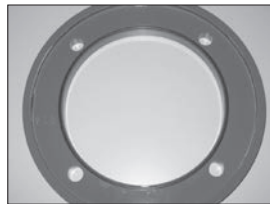

Figure 1
– Install the o-ring (item 14A) in the groove in the motor adapter. Use small amount of petroleum jelly (or silicone grease on EPDM o-rings) to help hold the o-ring in place. Install the larger female rabet portion of the motor adapter flange (item 14) on the motor face. Align the holes in the adapter with the holes in the motor face. See figure 1.
For IEC 90, 100/112, 132 with B5 flange motors - Install flange (item 14) on motor with pockets (depressions) side towards the motor face. Align (4) holes in the adapter with the holes in the motor face. install the (4) customer supplied bolts, lock washers and flat washers through the motor adapter into the motor face. See figure 1.
towards the motor face. Align (4) holes in the adapter with the holes in the motor face. Install (4) bolts, lock washers and flat washers (items 24, 25, 26) through the motor adapter into the motor face. See figure 1.